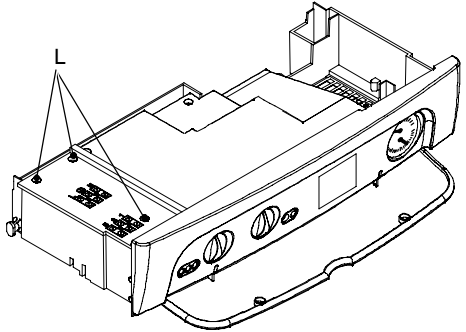

Fig. 6.15
- 5 Loosen the screws L and remove the service panel (Fig. 6.15).